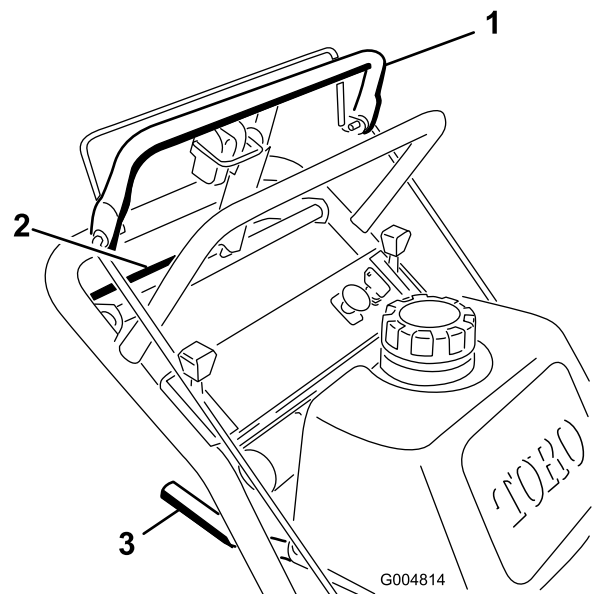

Figure 10
1. To go forward, move the shift lever to a forward gear (Figure 10).
3. Slowly press on the upper control bar to move forward (Figure 10).
To go straight, apply equal pressure to both ends of the upper control bar (Figure 10).
To turn, release pressure on the upper control bar side in the direction you want to turn (Figure 10).
3. Slowly squeeze the lower control bar and lower handle together to move rearward (Figure 10).